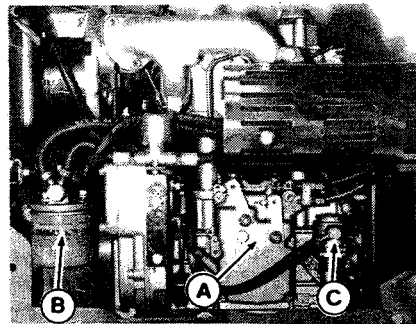

Figure 20.
1. Locate the two unions on injector pump (figure 20) and tighten. (Lines are metal.)
Remove fuel filter cannister (B, figure 20) with a filter wrench. Fill the new cannister with fuel before installing.
Disassemble fuel feeding (pump) filter (C, figure 20) by removing nut on top. Clean the screen with an air gun. (See your dealer).